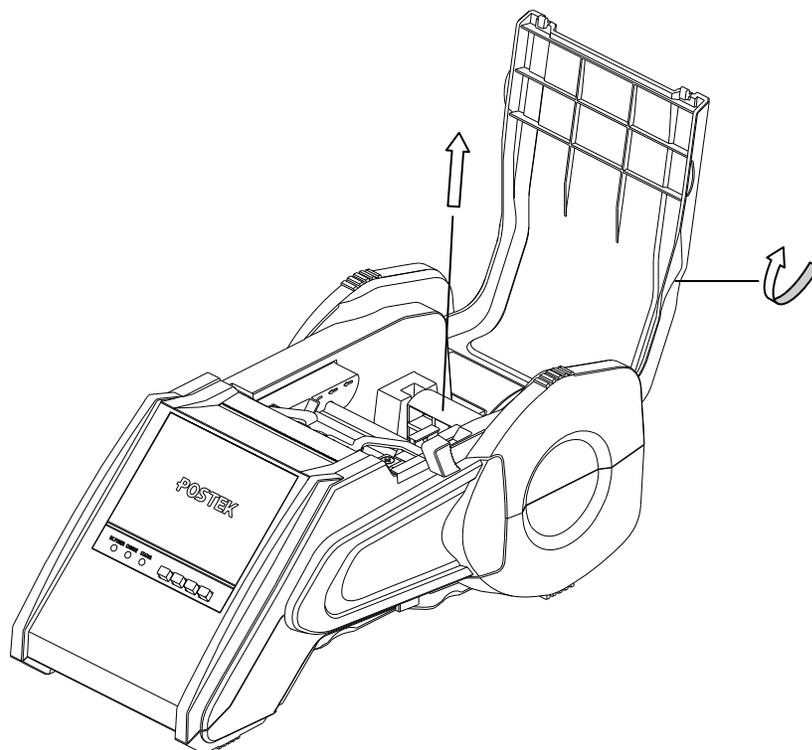
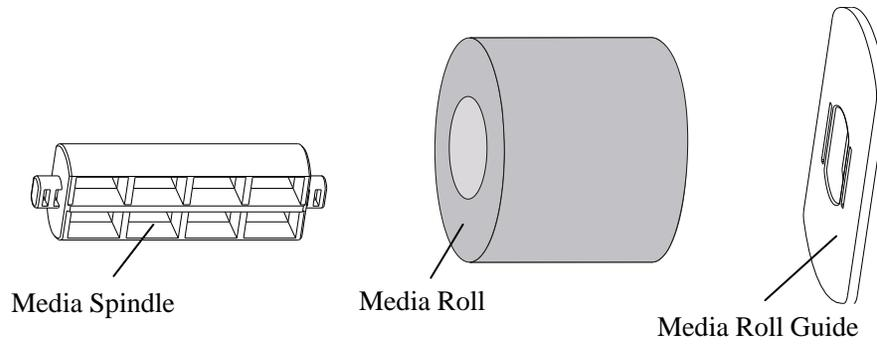

Figure 2-9
Figure 2-10
1. With the printer turned off and the Locking Lever in the Locked position, open the printer's top cover (Figure 2-9) and remove the Media Spindle and Media Roll Guide (Figure 2-10) from the media compartment.